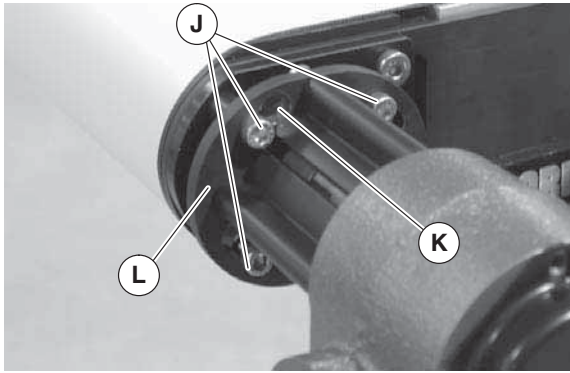

Figure 6
4. Slide mounting screws (Figure 6, item J) through slots (K) in gearmotor bracket (L). Rotate gearmotor assembly into desired position.